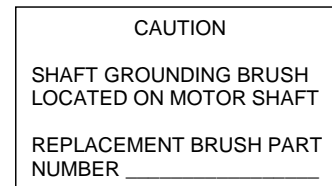

Figure 4-3. Sample Brush Holder Reminder Nameplate
**As preventive maintenance**, check the carbon brush insert every month and replace once a year. As a maintenance aid, mount a stick-on reminder nameplate (see Figure 4-3) in a visible, nearby location.